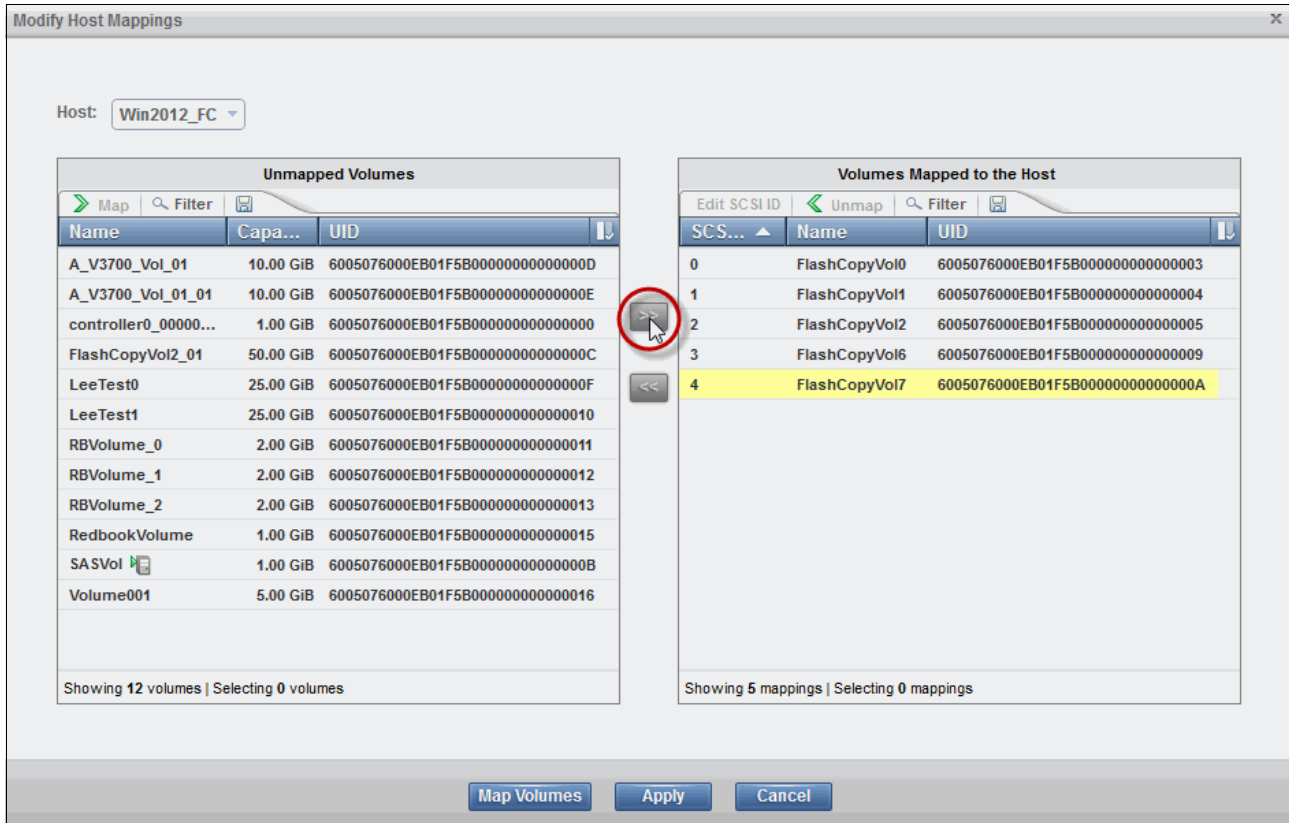

Figure 8-6 Modify Host Mappings
- Click the Right Arrow icon to move the volume to the right pane, as shown in Figure 8-6. The changes are marked in yellow, and the **Map Volumes** and **Apply** buttons are enabled.
6. If **Apply** had been clicked in the pane shown in Figure 8-6 on page 364, the changes would have been submitted to the system, but the Modify Host Mappings pane remains open for further changes.